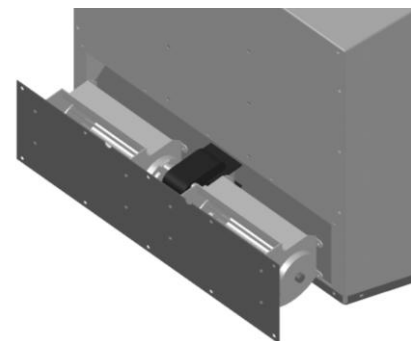

Figure 29: Fan Access Panel
1. Pull the fireplace insert out of the pre-existing fireplace cavity until you have access to the fan access panel on the back of the fireplace. Figure 29